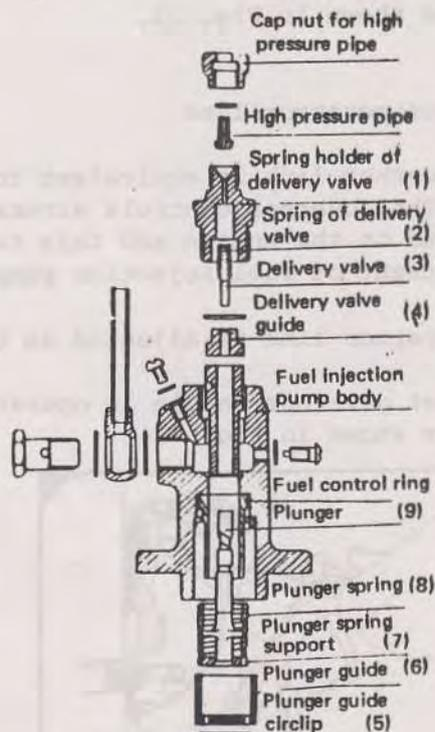

Fig. 20
(1) Fuel pump is disassembled in the following way (See Fig. 20):
- (c) Take off plunger guide circlip(5), and then plunger guide(6), plunger spring support(7), plunger spring(8) and plunger(9) can be taken out as simply downwards as they are.